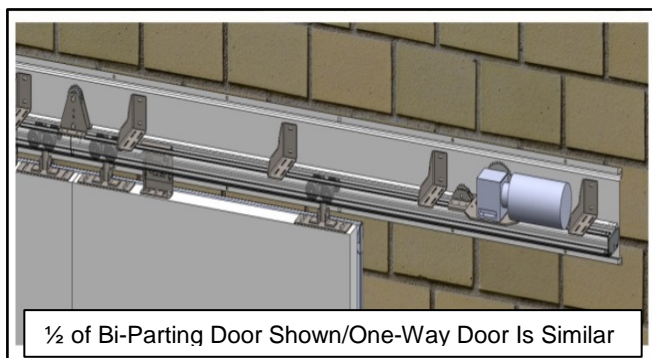

Figure 20
5. Check that all mounting hardware, such as nuts, bolts, and screws, etc., throughout the head assembly, drive motor gearbox assembly, idler assembly, trolleys, mounting brackets, etc. are secure and tight. Tighten and replace any loose or missing hardware as necessary. (See Figure 20)